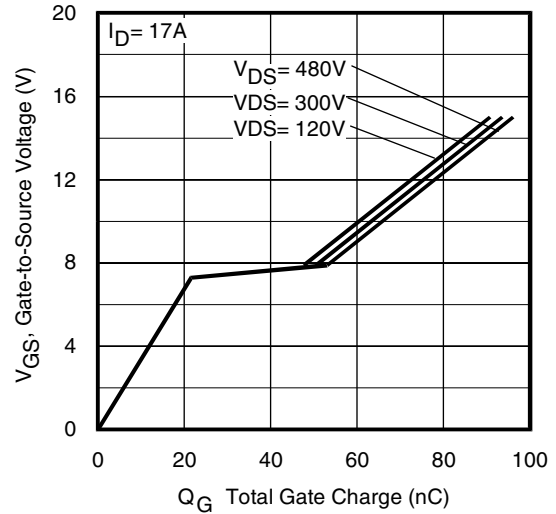

Fig 6. Typical Gate Charge Vs. Gate-to-Source Voltage
| Q_g | Total Gate Charge | — | — | 99 | nC | $I_D = 17A$ $V_{DS} = 480V$ $V_{GS} = 10V$, See Fig. 6 and 13 ④ |